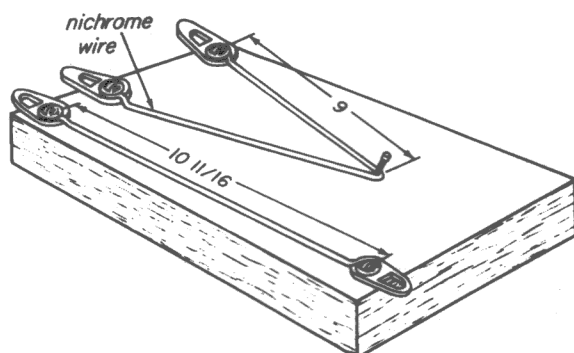

Fig. 26-1
Step 2. Examine Fig. 26-1. Notice that a small nail is shown hammered into the board. The nail is close to one short edge of the board and about half way between the long edges. Hammer a nail part way into your board in about the same position.
Step 3. Loop the 18-inch length of nichrome wire around the nail so that half of it extends on either side of the nail. Bring the ends of the wire down to form a loop shaped like the one in Fig. 26-1. Notice that the ends of the loop are to be mounted under
Step 8. Remove two of the vacant grounding lugs from your capacitor board and mount them near the edge of the board on which you are working so that they are $10\frac{11}{16}$ inches apart. Before the screws are tightened down, as in Fig. 26-1. Fasten the piece of nichrome wire between the two lugs, as described in Step 3. The resistance between these lugs is 6 ohms.